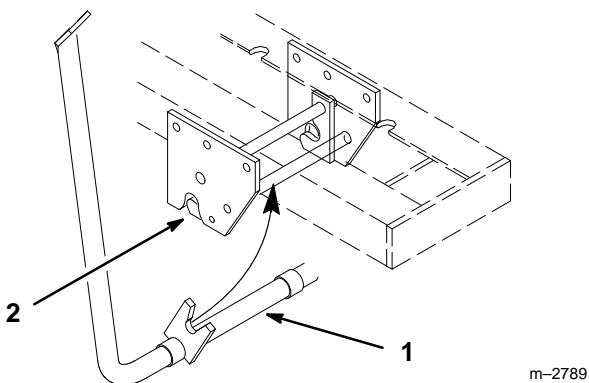

Figure 11
17. Open mid hitch and install handle support (Fig. 11). Align notch on handle with hitch rod so it does not rotate.